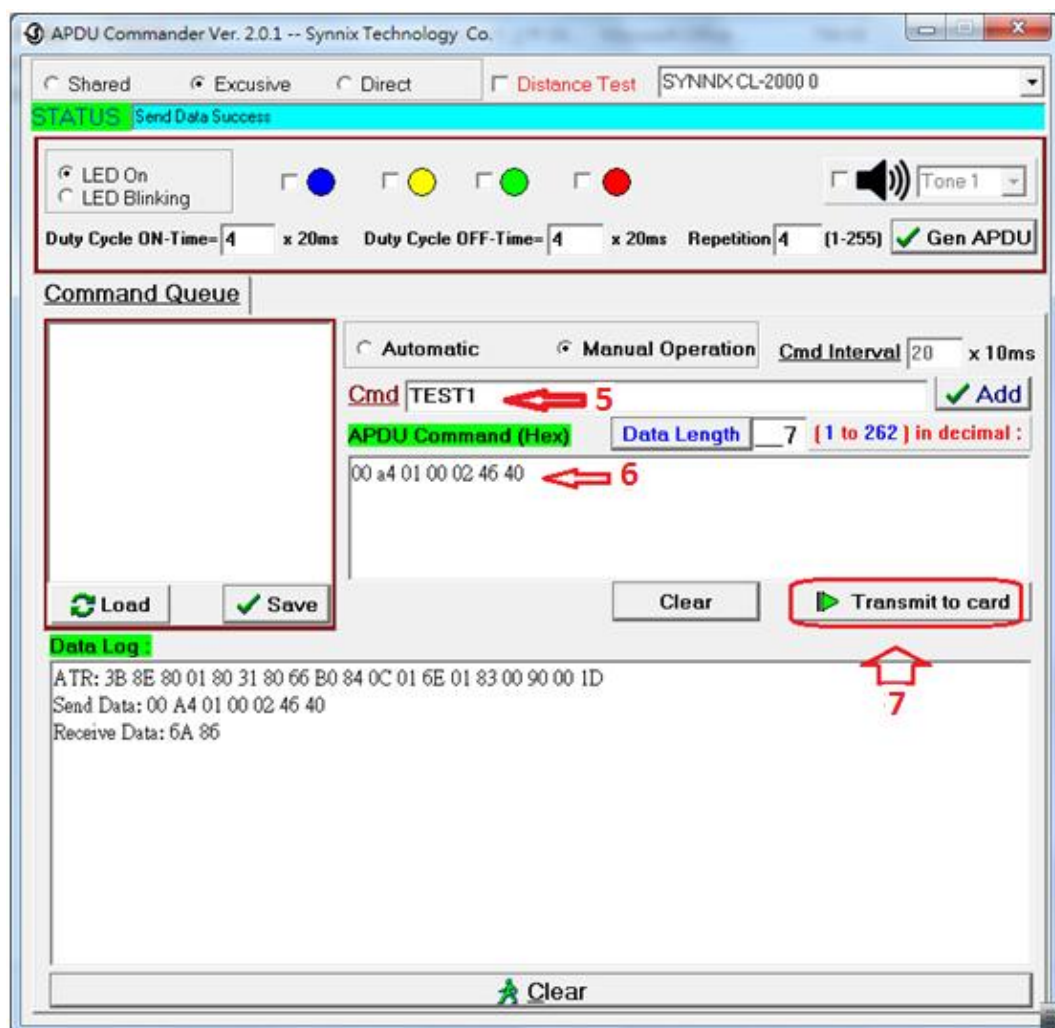

Figure 15
- 6. In the "APDU Command(Hex)" field, Input APDU command then click on "Data length" to calculate length of command you inputted. See Figure 15.